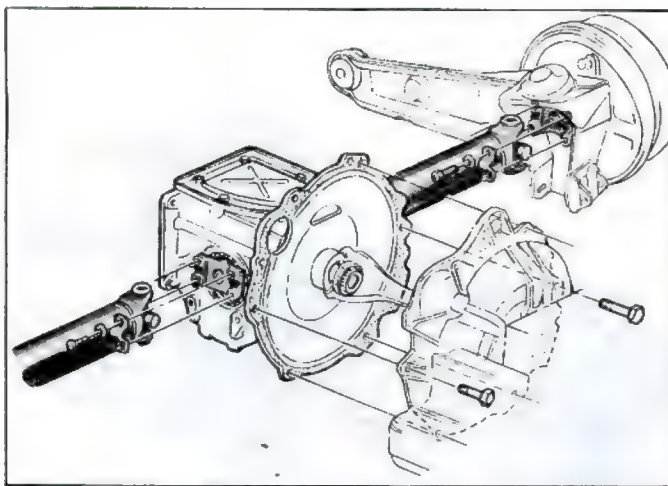

Fig. 3—Axle Drive Shaft Installation
3. Disconnect inboard drive shaft trunnion from side gear yoke by removing the four bolts and retaining straps (fig. 3).